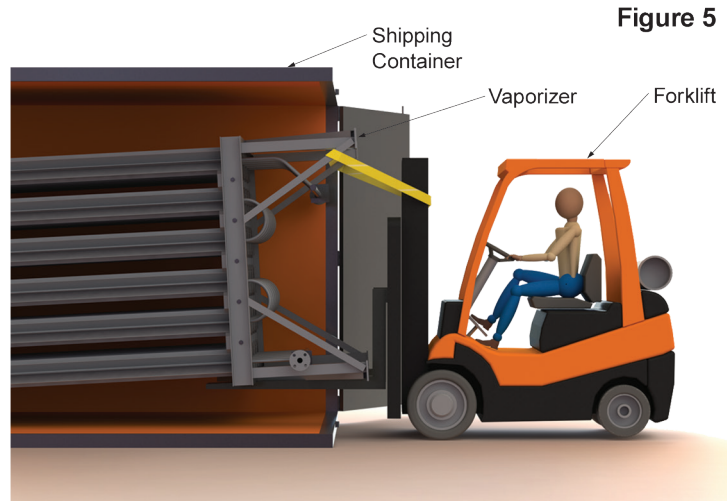

Figure 5
- 5.8 Using a forklift and slings, lift the end of the vaporizer enough to allow room to fit the forklift forks underneath the vaporizer frame. (Use special care when lifting vaporizers that fit snugly in the container). Place blocks under the vaporizer frame, leaving room for the forks (Refer to Fig. 5)